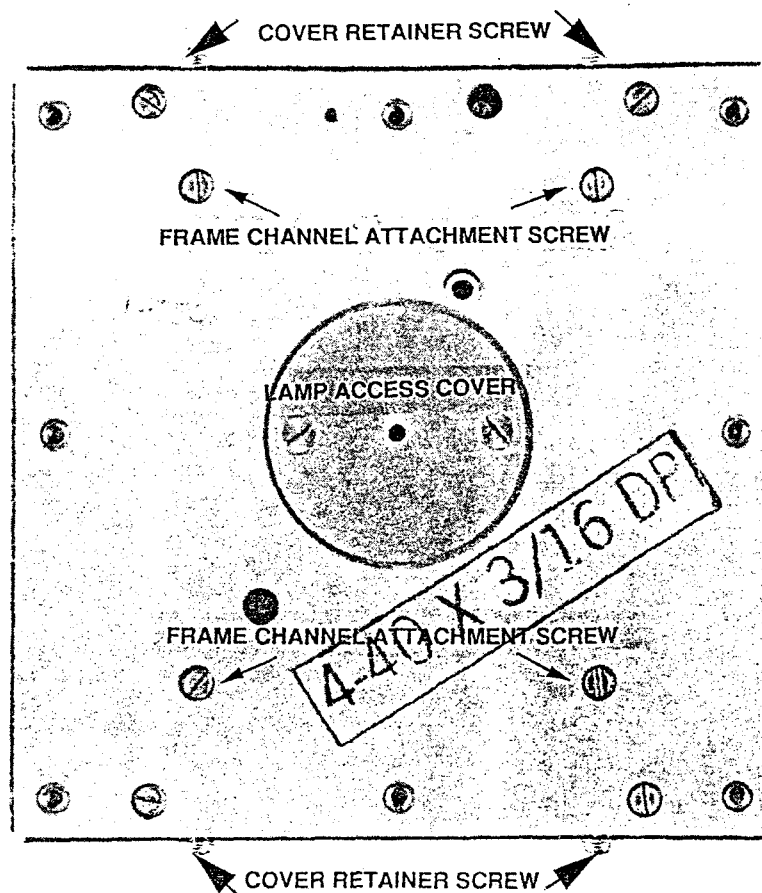

Figure 4-4. FRK Baseplate
- (1) Detach the cover from the FRK assembly by removing ^{SIX} two 2mm screws on the connector face of the unit, then remove four 2mm screws that hold the bottom of the cover to the baseplate (see Figure 4-4). Once all six retaining screws are removed, hold the baseplate while gently pulling on the cover (it may be necessary to move the cover slightly from side to side as the FRK internal assembly is removed from the case).
- (2) Remove any of the outside PCB assemblies by removing the M2x6 screws that fasten the boards to the FRK frame at each corner (the servo and synthesizer boards have additional screws that must also be unfastened).
- (3) Once the mounting screws are removed, label all wires and coax (shielded wire) connections, and then remove each one (a soldering iron is required).
- (4) Disassemble the baseplate of the FRK by removing the lamp inspection cover and all other screws on the outside face of the baseplate. This frees the baseplate from the frame.